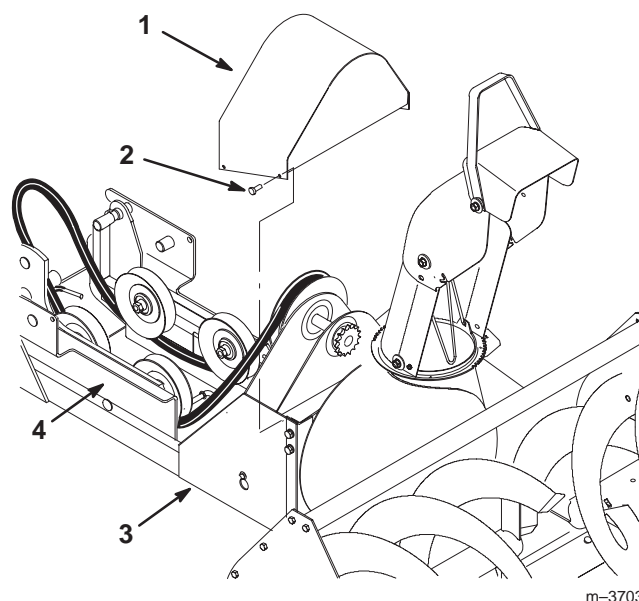

Figure 38
2. Remove the pulley cover from the snowthrower frame assembly, by removing the (4) #10 x 1/2" (13 mm) screws (Fig. 38).
3. Slide the pulley box out of the snowthrower frame (Fig. 38).
8. Attach the pulley cover to the snowthrower frame assembly with (4) #10 x 1/2" (13 mm) screws (Fig. 38).